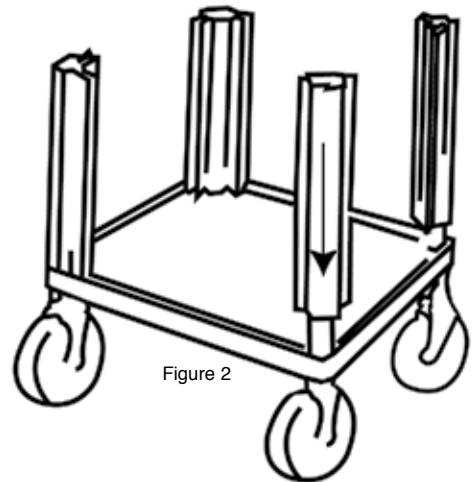

Figure 2
STEP 2: Place the four fluted legs over the corner posts so that the channels face each other. The legs have notches on both ends. The end with the shorter notch should be placed over the bosses on the lower shelf. Use a rubber mallet* to tap legs into place. make sure that legs are even and fully seated. (FIGURE 2)